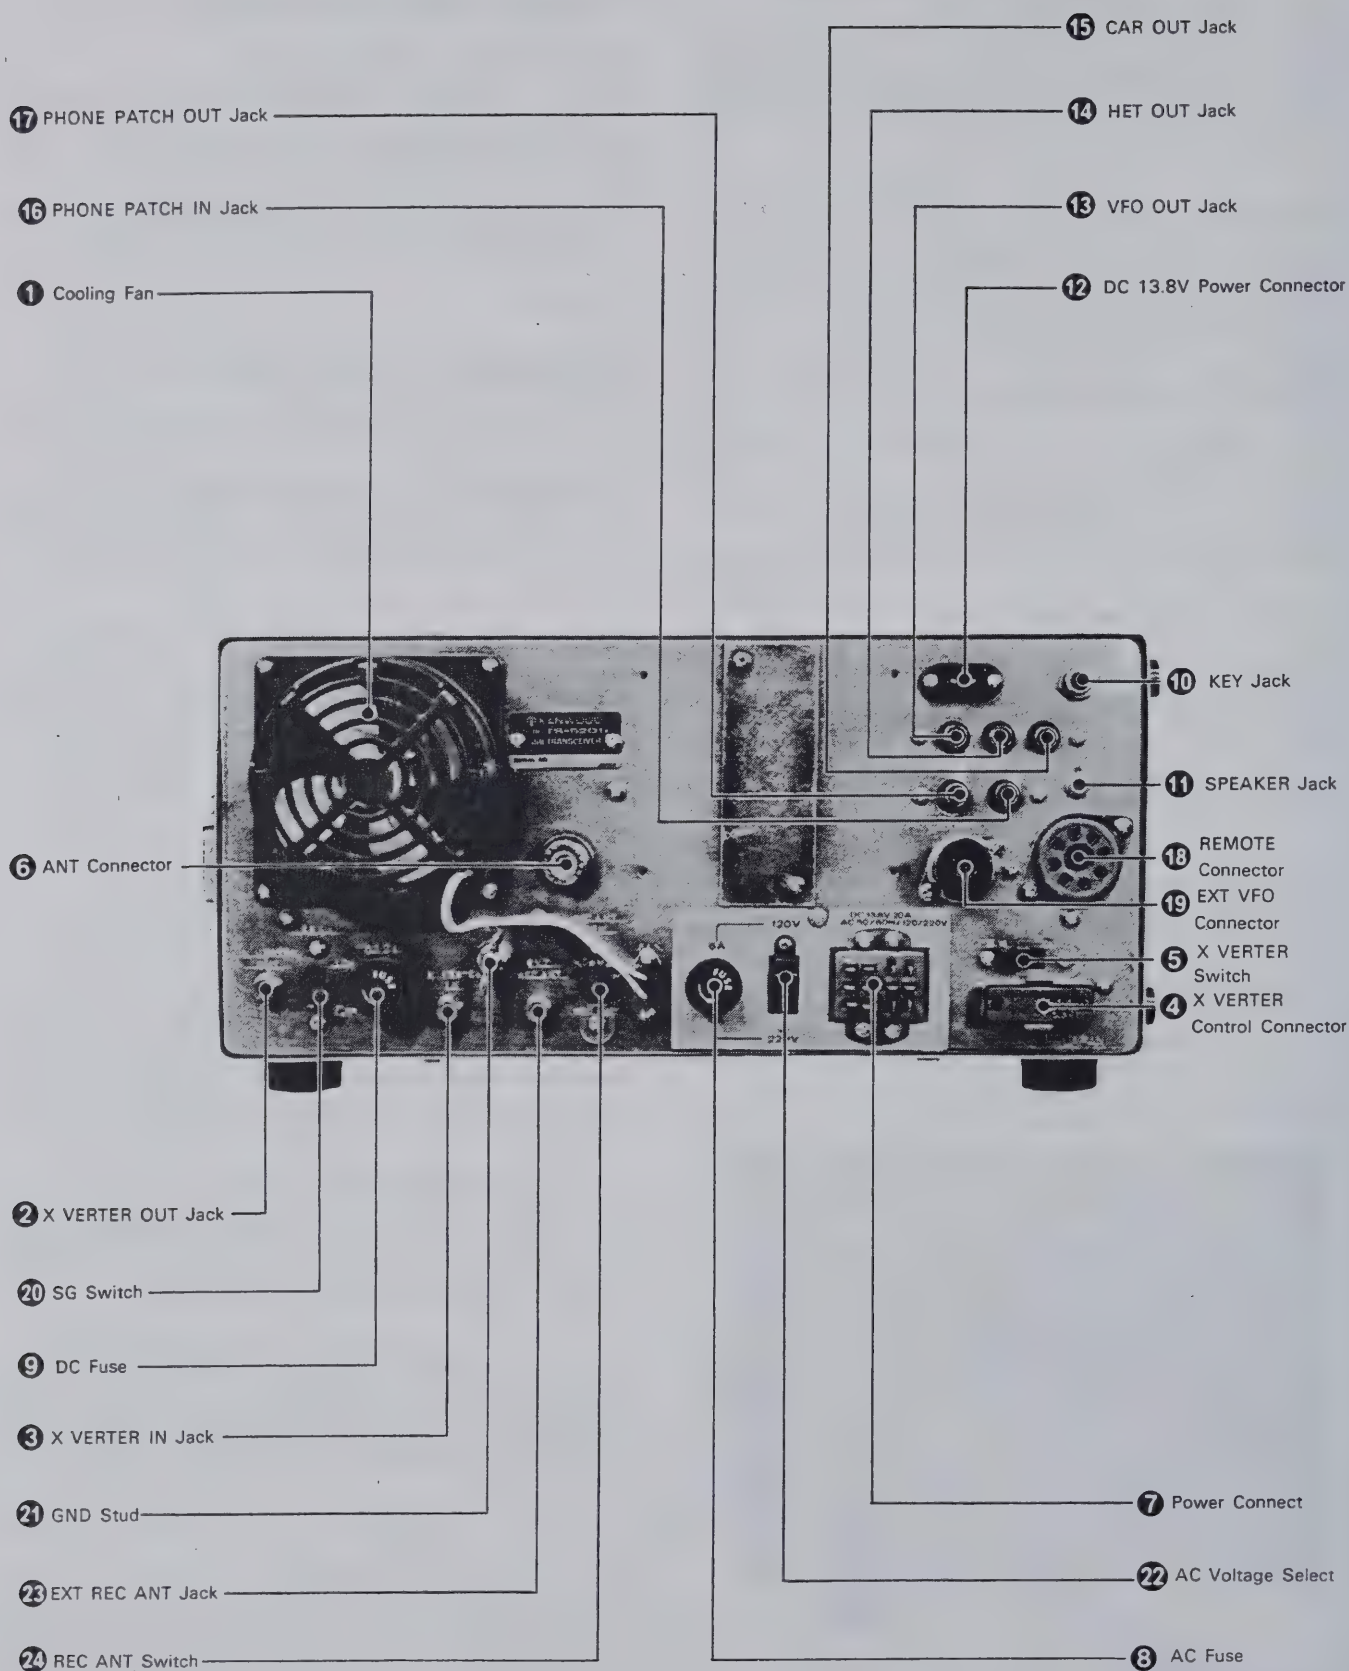

Fig. 7 Rear Panel Controls
3.3 REAR PANEL CONTROLS (See Figure 7)
■ COOLING FAN (1 on Figure 7)
■ TRANSVERTER OUT JACK (2 on Figure 7)
■ TRANSVERTER IN JACK (3 on Figure 7)
■ TRANSVERTER CONNECTOR (4 on Figure 7)
■ X VERTER SWITCH (5 on Figure 7)
■ ANTENNA CONNECTOR (6 on Figure 7)
■ POWER SUPPLY CONNECTOR (7 on Figure 7)
■ AC FUSE (⑧ on Figure 7)
■ DC FUSE (⑨ on Figure 7)
■ KEY JACK (⑩ on Figure 7)
■ SPEAKER JACK (⑪ on Figure 7)
■ 13.8V DC CONNECTOR (⑫ on Figure 7)
■ VFO OUT JACK (⑬ on Figure 7)
HET OUT JACK (⑭ on Figure 7)
CAR OUT JACK (⑮ on Figure 7)
■ PHONE PATCH IN JACK (⑯ on Figure 7)
■ PHONE PATCH OUT JACK (⑰ on Figure 7)
■ REMOTE CONNECTOR (⑱ on Figure 7)
■ EXTERNAL VFO CONNECTOR (19 on Figure 7)
■ SG SWITCH (20 on Figure 7)
■ GND (Ground) LUG (21 on Figure 7)
■ AC VOLTAGE SELECT SWITCH (22 on Figure 7)
■ EXTERNAL RECEIVER ANTENNA JACK (23 on Figure 7)
■ RECEIVER ANTENNA SWITCH (24 on Figure 7)